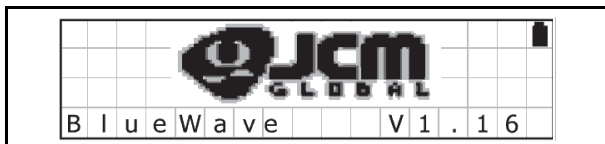

Figure 27 SD Card Confirmation Screen 4
1. Turn the DT-300™ Power Switch ON, and the SD Card check will begin (See Figure 27).